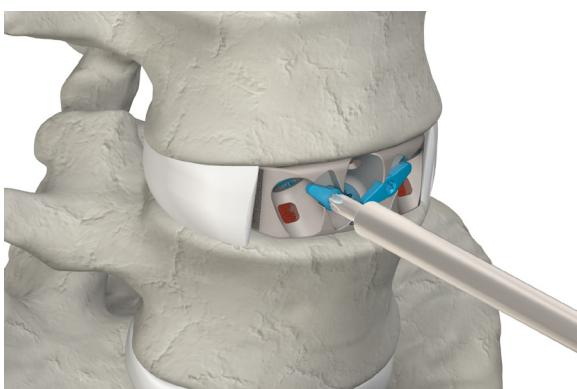
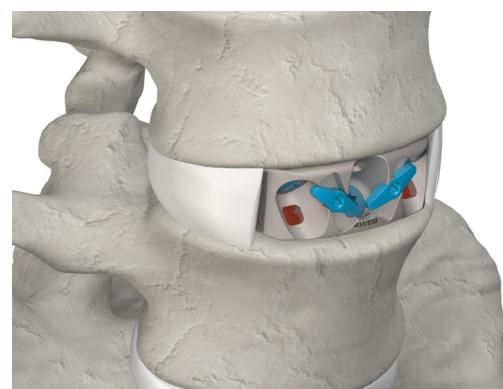

Figure 36
Figure 37
- ▲ Use the Anti Back Out Plate Driver to rotate the two Locking Plates approximately 90° (Fig. 36). The wings of the Locking Plate will stop against the recess on the anterior face of the implant (Fig. 37).